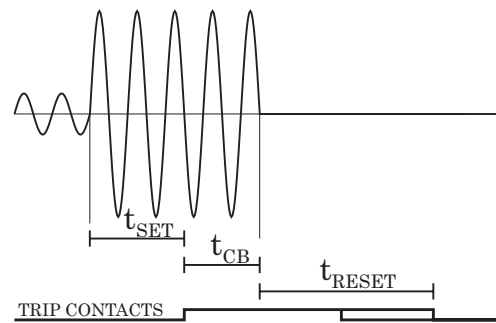

Figure 5.4: Reset time is the time it takes the trip or start relay contacts to open after the fault has been cleared.
Figure 5.4 shows an example of reset time i.e. release delay, when the relay is clearing an overcurrent fault. When the relay's trip contacts are closed the circuit breaker (CB) starts to open. After the CB contacts are open the fault current will still flow through an arc between the opened contacts. The current is finally cut off when the